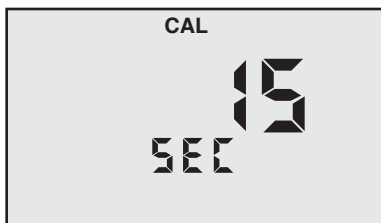

Figure 25
4. Press  to initiate. **CAL** will be displayed along with the “15 SEC” (see Figure 25).